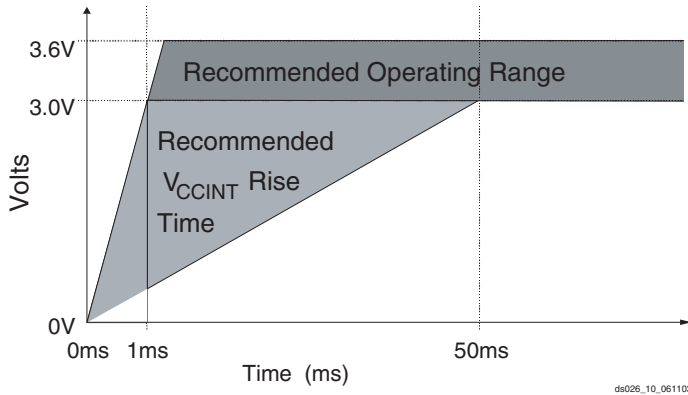

Figure 8:  $V_{CCINT}$  Power-Up Requirements
On power up,  $\overline{\text{OE/RESET}}$  is held low until the XC18V00 is active (1 ms).  $\overline{\text{OE/RESET}}$  is connected to an external 4.7k $\Omega$  resistor to pull  $\overline{\text{OE/RESET}}$  HIGH releasing the FPGA INIT and allowing configuration to begin. If the power drops below 2.0V, the PROM resets.  $\overline{\text{OE/RESET}}$  polarity is *not* programmable. See Figure 8 for power-up requirements.
- At power up, the device requires the  $V_{CCINT}$  power supply to monotonically rise from 0V to nominal voltage within the specified  $V_{CCINT}$  rise time. If the power supply cannot meet this requirement, then the device might not perform power-on-reset properly. See Figure 8.